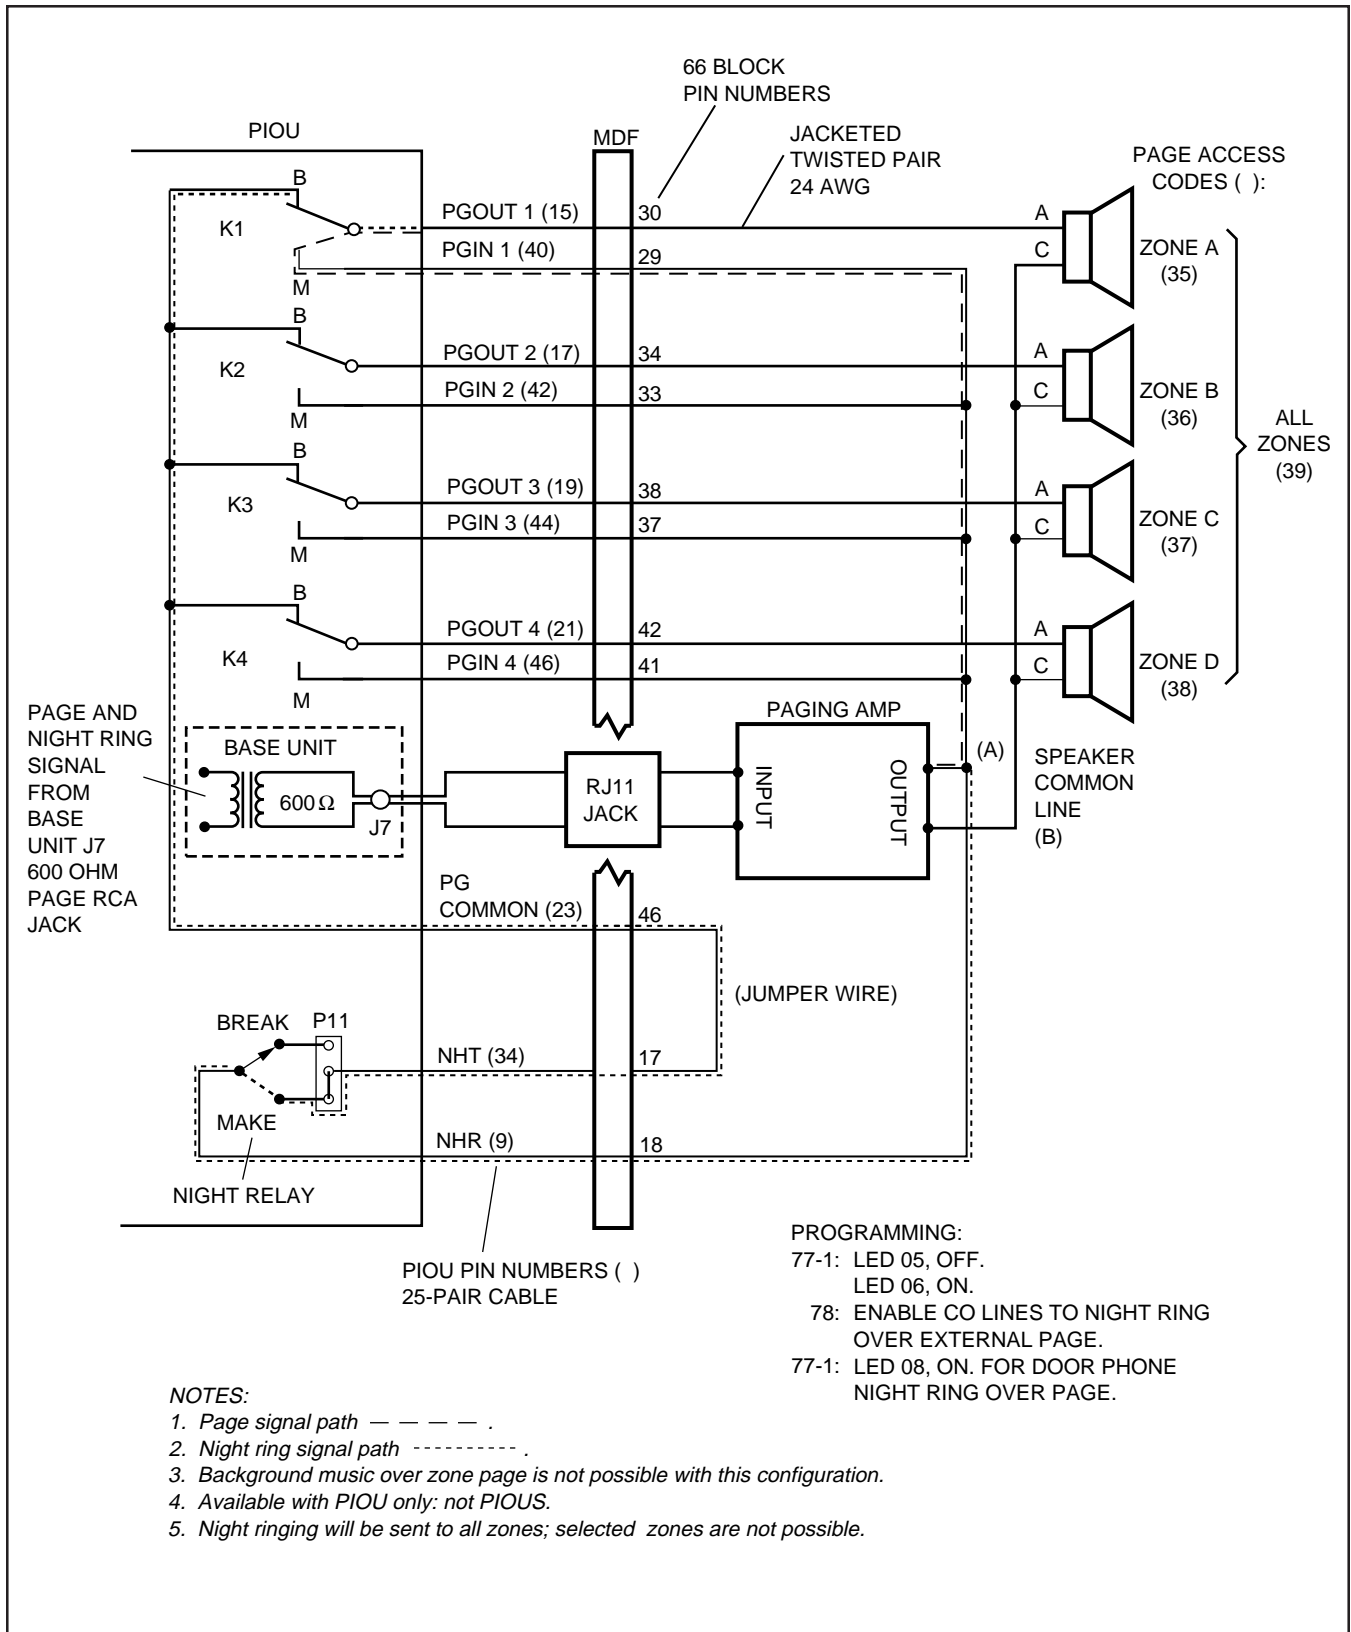

FIGURE 7-18
5.16 DK16 Night Ringing over All External Page Zones (PIOUS only). To allow the night ringing signal to be sent over zone paging, install the paging amplifier in accordance with the following steps (refer to Figure 7-18). (Steps 2 ~ 6 are performed at the MDF.)